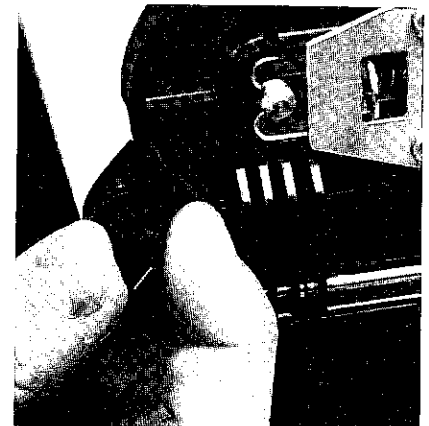

FIGURE 33
9. Turn the small knob at the upper left hand side of the transport assembly to put a small amount of tension on the paper. It should be snug against the platen. (See Figure 33.)